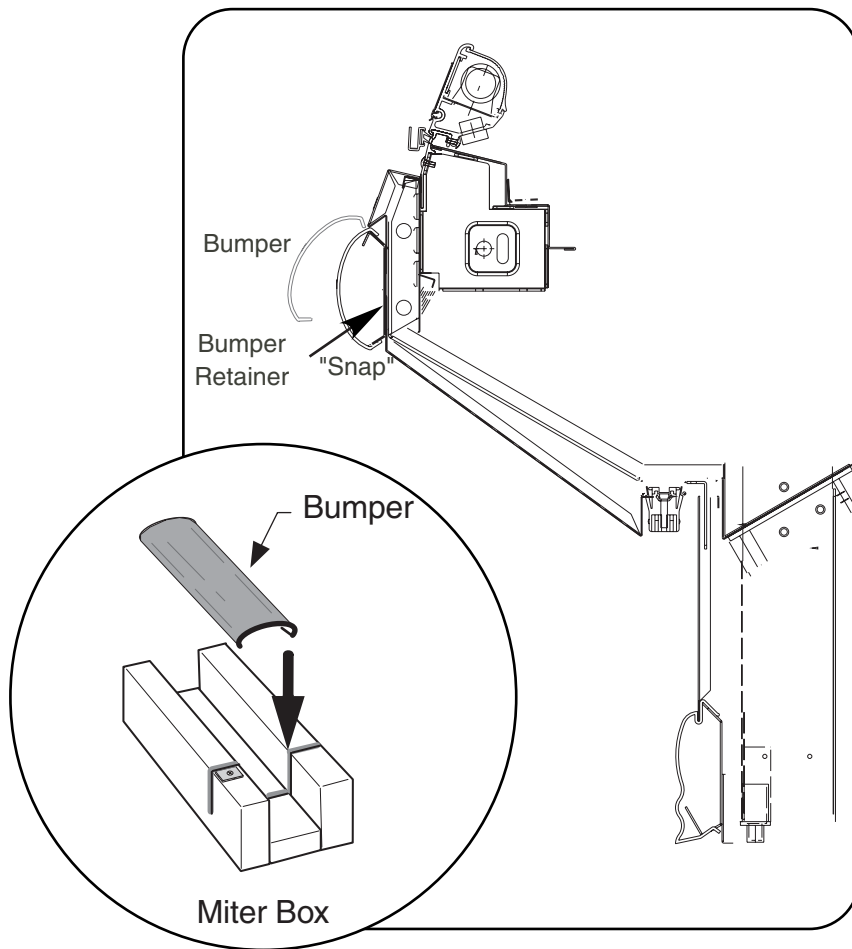

Figure 18. Install Impact Bumper
- C. Use a miter box and fine toothed saw to cut last full-length bumper. See Figures 18 and 19.